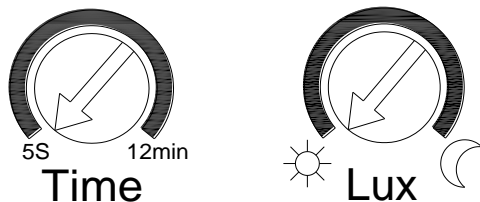

FIGURE 8
(1) TEST MODE
- Turn the LUX control and the TIME control counterclockwise to the edge – the TEST position. (FIGURE 8)